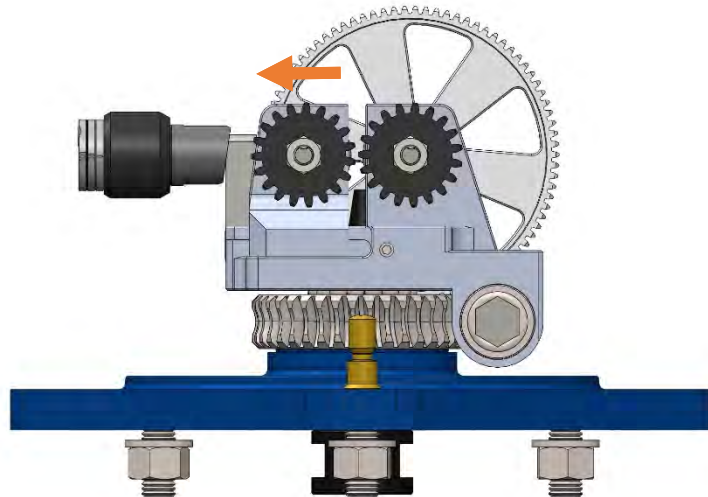

Figure 21
- Slide the movable support along the guide to allow the Twister wheels to open. Figure 21;